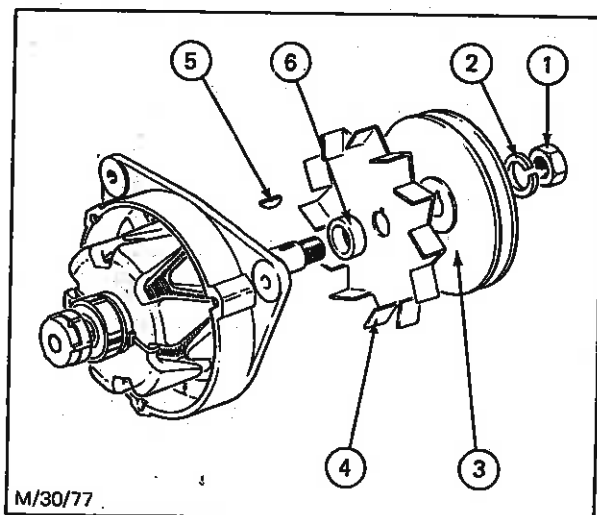

Fig. 19 - Removing Pulley and Fan
3. Remove nut (1) and washer (2) and detach pulley (3) and fan (4) - see Fig. 19.